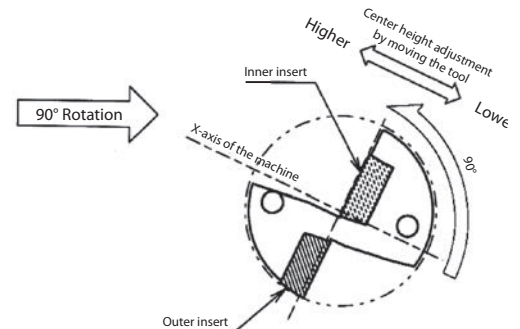

Fig. 9
2. If the core diameter becomes too large after the above adjustment, install the drill by rotating 90° counter-clockwise as shown in Fig. 9 (Outer insert is positioned lower) and adjust the center height by moving the tool in the X-axis direction. (However, this makes it impossible to adjust the cutting diameter.)